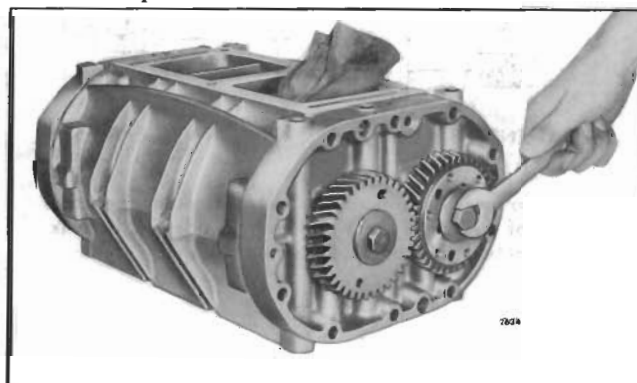

Fig. 18 - Installing Blower Rotor Timing Gears
- Thread a 1/2"-20 x 1-1/4" bolt with a thick washer into the end of each rotor shaft. Place a clean folded cloth between the lobes of the rotors (Fig. 18) to prevent the gears from turning. Draw the gears into position tight against the spacers and shims and the bearing inner races as shown in Fig. 18.